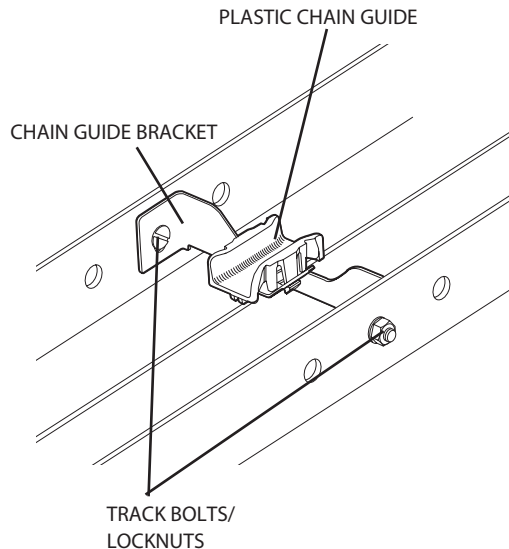

Figure 3
- 2) Attach the chain guide assemblies to the drawbar rails using Track Bolts and locknuts (provided). **Fig. 3.**